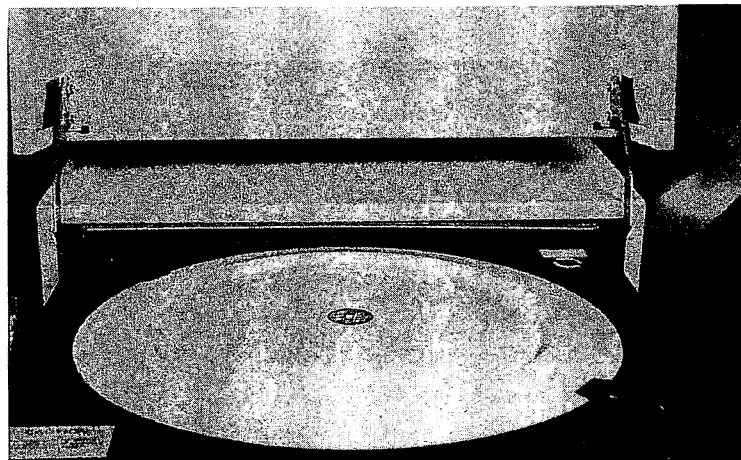

Figure 2-12. Cartridge Sealed and Locked in Disk Unit
- Step 6 Place the dust cover, open end down, over the disk cartridge, and close the two holding clamps (Figure 2-12).